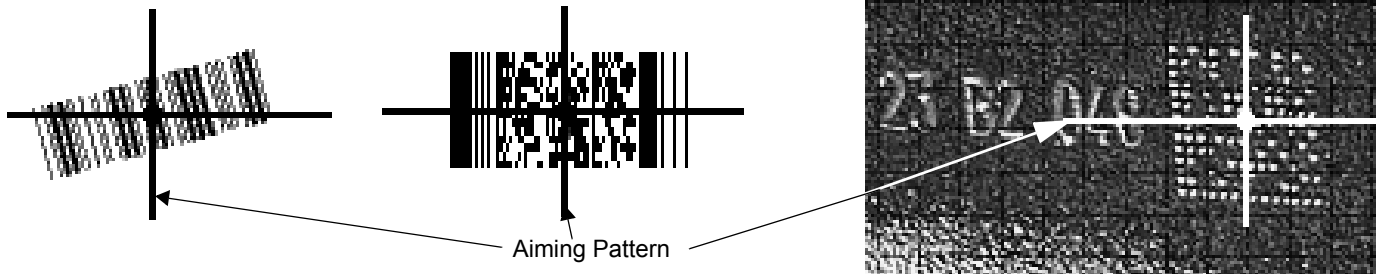

Figure 3-3 Scanning Orientation with Imager Aiming Pattern
- ✓ **NOTE** Scanning Direct Part Mark (DPM) bar codes with the MT2070-DP scanner: Due to the reflective nature of some surfaces used with DPM bar codes (see Figure 3-3), it may be necessary to tilt the scanner at an angle relative to the target (Zebra recommends 25-45 degrees). For example, when scanning a 15 mil dot peen Data Matrix bar code marked on an aluminum surface, present the target between two and three inches from the nose of the scanner, and tilt the scanner at a 30 degree angle.